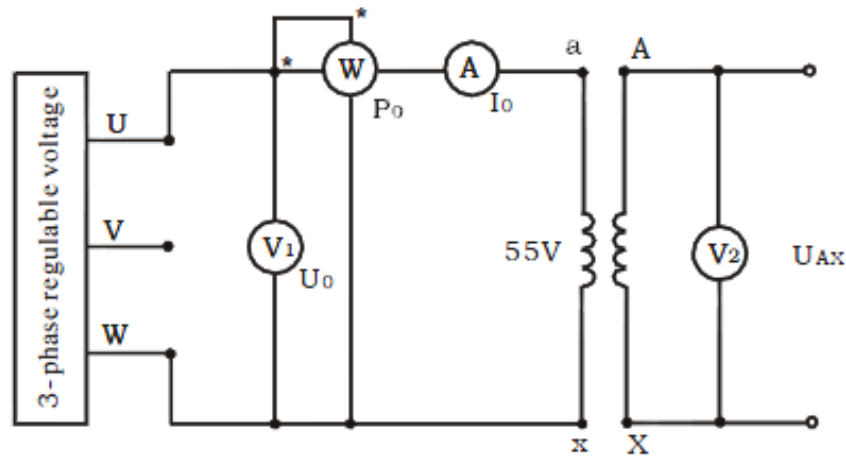

Figure 1: No load test circuit
The connection diagram is shown in Figure 1. The transformer is the single-phase transformer of module DJ11 with Low Voltage (LV) winding terminals **a** and **x** connected to the power supply, while High Voltage (HV) winding terminals **A** and **X** are open circuit. Use module D33 for